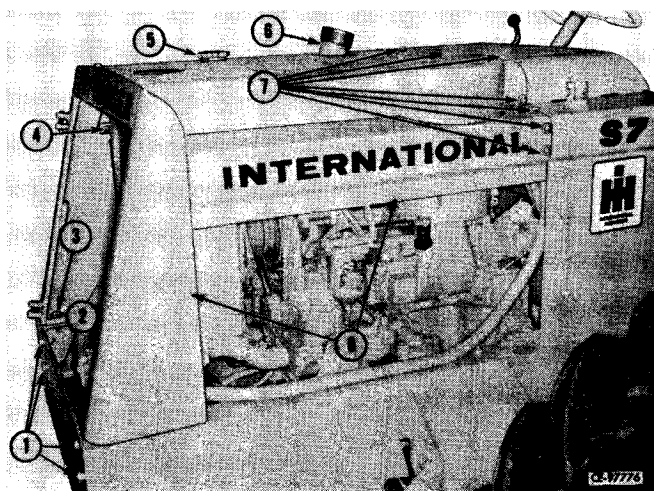

Figure 2-5
Remove exhaust pipe (6, Fig. 2-5) from exhaust manifold by removing cap screws and lock washers. Insert a plug into exhaust port to keep dirt from entering the engine.
Remove reservoir cap and dipstick (5, Fig. 2-5) and using overhead hoist, lower hood and radiator grille (8) on frame. Install reservoir cap (5). Install exhaust pipe (6) to exhaust manifold. Install cap screws, spacers, lock washers and nuts (4), on each side securing radiator to support brackets. Install cap screws, flat washers and special nuts (7) securing hood to engine cowling. Install and tighten cap screws, lock washers and nuts (3) securing grille to frame. Position plate (2) and install and tighten cap screws (1).